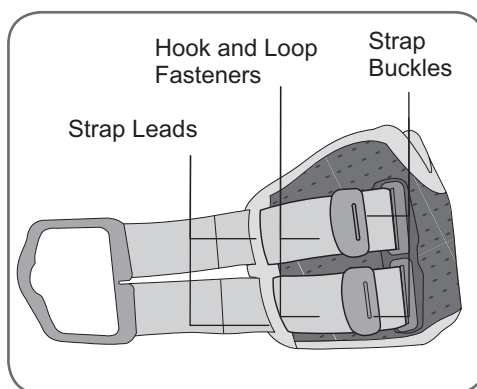

Figure 8-1: L300 FS Cuff strap fitted to the L300 FS Cuff.
4. Insert the selected strap through the strap leads and buckles on the L300 FS Cuff. See Figure 8-1.